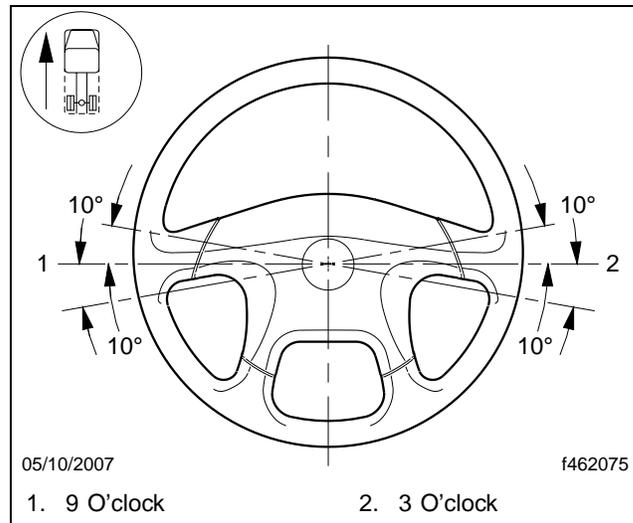

Fig. 11, Steering Wheel Centered
47. Make sure that the steering wheel is within 10 degrees of center as shown in **Fig. 11**. If it is not, remove and center the steering wheel.